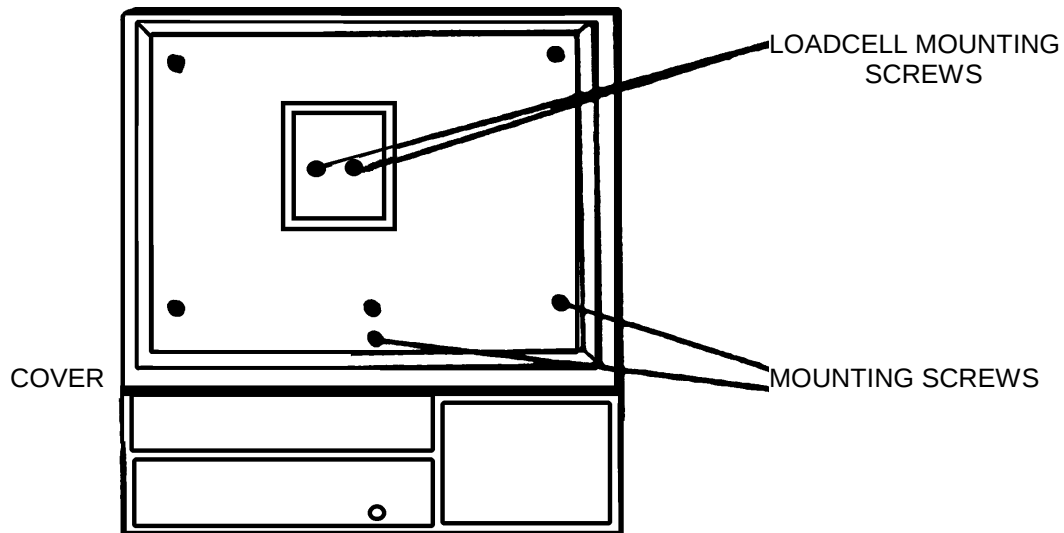

FIGURE 6
3. Remove the 5 phillips head screws holding the cover to the base. (The 6th innermost screw is not removed, figure 6)